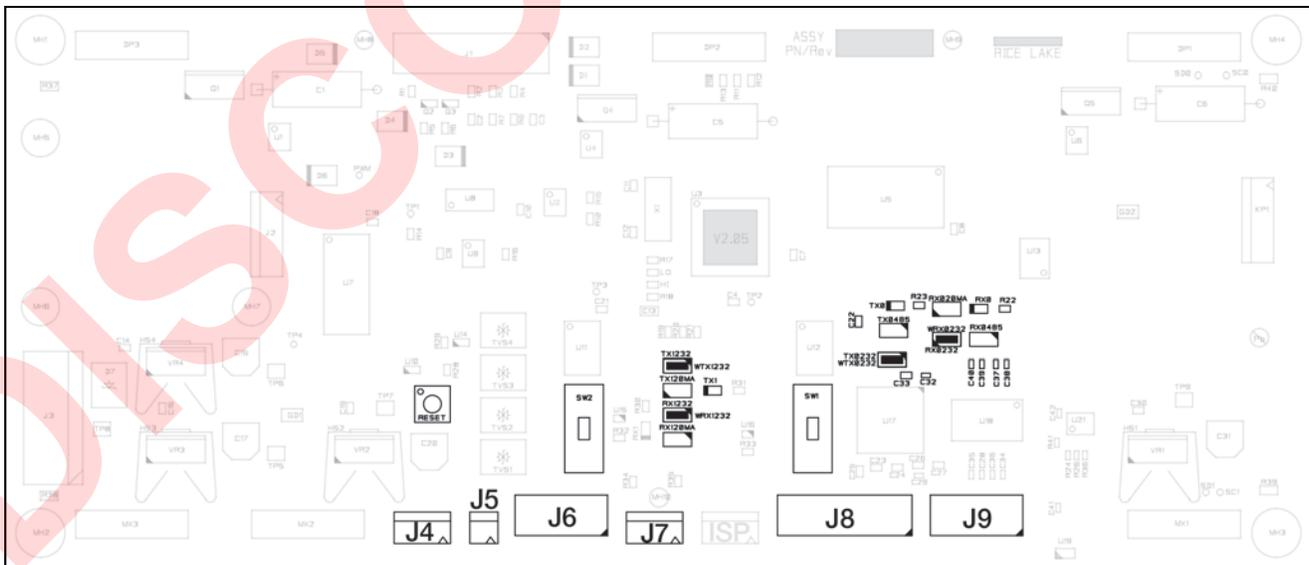
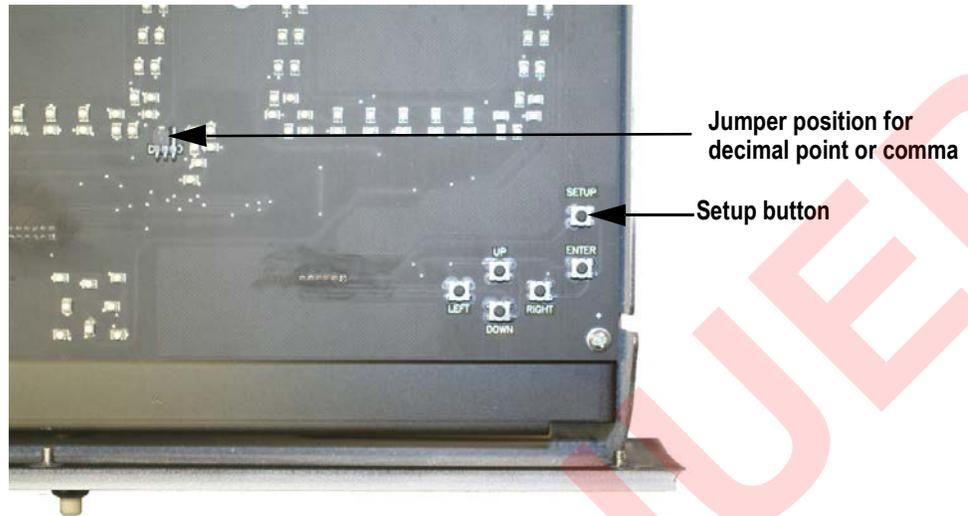

Figure 3-1. LaserLight CPU Board
Figure 3-2. Setup Button Location on Secondary Display Board (7-Segment Display)
The primary display board has decimal LED's. These can be changed to commas by moving a jumper located on the front of the display board (Figure 3-2 on page 12).
2. Visually inspect to ensure the Auto-Learn button is connected to J5 on the CPU board, see Figure 3-1 for plug-in location.
To begin configuration, open the enclosure, see Section 2.2 on page 5 for enclosure disassembly instructions, to access the CPU board (Figure 3-1 and Figure 3-2 on page 12).
The setup button is located on the secondary display board (Figure 3-2).
When configuring the indicator attached to the remote display, ensure the decimal point configuration is compatible with the remote display. The LaserLight 7-segment remote display allows none, one or two decimal places, see Figure 3-2 on page 12 for jumper positions. The 8- or 12-character matrix displays use of one character position for the decimal point.